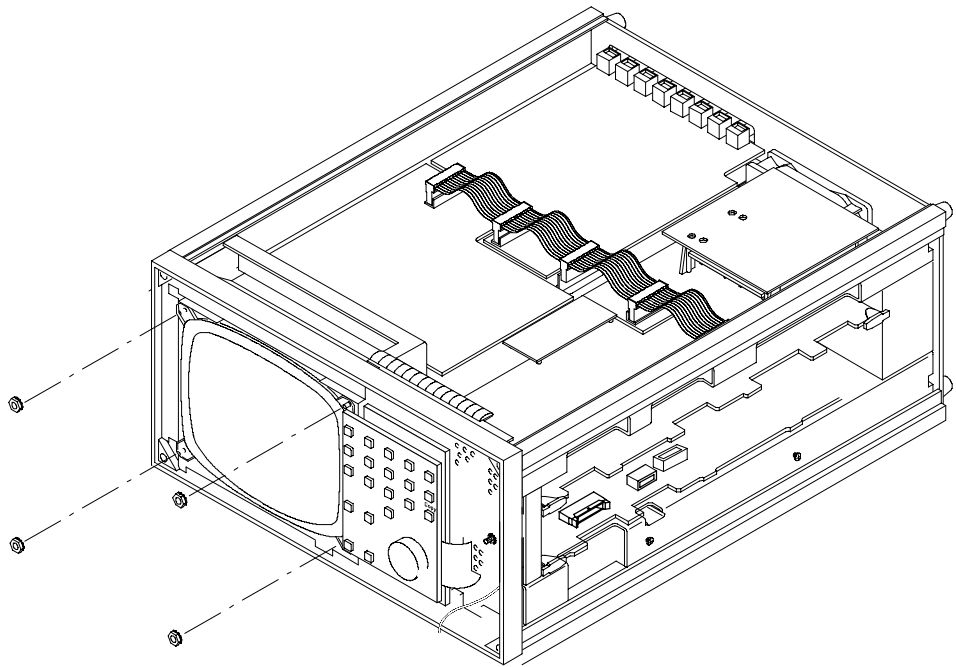

Figure 7: Removing the CRT touch panel nuts
- a. Position the CRT touch panel from the kit against the CRT, and secure it in place with the four nuts removed earlier. See Figure 7.